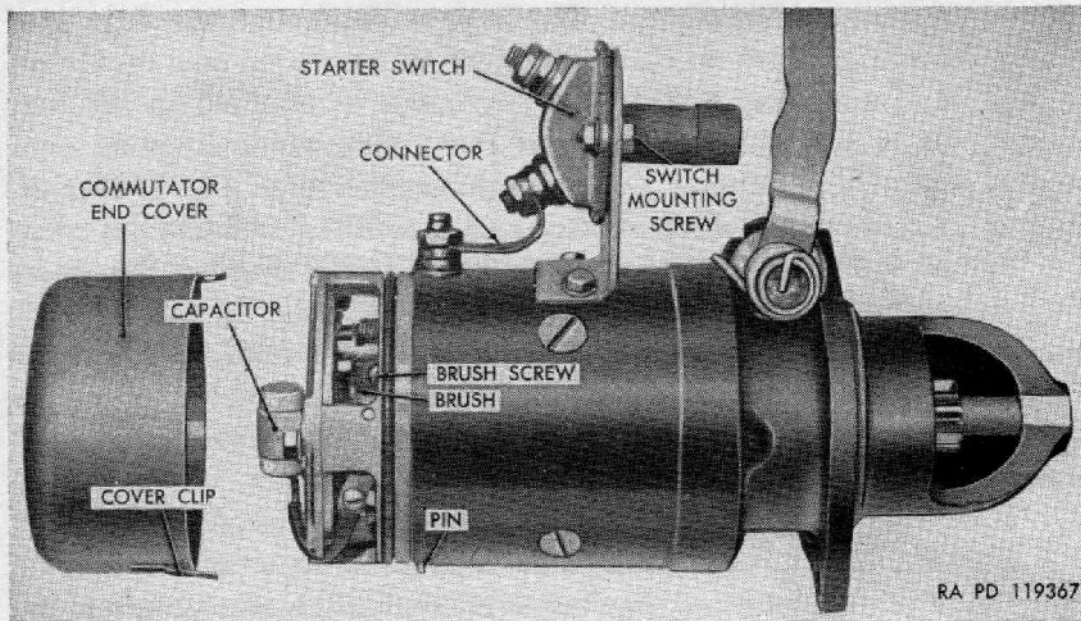

Figure 80. Starter with cover removed.
- (1) *General.* The starting and charging system consists of the starter, generator, and generator regulator. When the starter switch (fig. 80) mounted on the starter is closed, starter draws electric current directly from the batteries. The purpose of generator and generator regulator is to keep batteries fully charged and to furnish current for ignition and lighting system when speed of engine permits.
a. INSPECTION AND CLEANING (fig. 80). Remove commutator-end cover by releasing two cover clips from pins in starter housing and sliding cover off. Inspect commutator for dirty condition, roughness, high spots, and high mica. If commutator is dirty, clean with grade 2/0 flintpaper only and blow out dust with compressed air. If the commutator is rough, out-of-round, or has high mica, starter must be replaced.
b. REMOVAL. Disconnect battery-ground cable (7) at batteries (figs. 121 and 122). Disconnect starter cable at starter switch (fig. 80).
(1) *Remove Brushes.* Remove starter (b above). Remove commutator-end cover (fig. 80). Remove brush terminal screw and lock washer and pull brush out of brush holder. All four brushes are removed in same manner.
(2) *Install Brushes.* Pry brush spring up with screwdriver and install new brush in holder. Allow spring to snap down against brush and position itself. Fasten brush terminal to starter frame with screw and lock washer. All four brushes are installed in same manner. Make sure "O" ring gasket is in position and slide cover carefully into position so holes in cover clips engage pins in starter housing (fig. 80). Install starter (d below).
d. **INSTALLATION.** Place starter in position on mounting studs with a new gasket. Be sure switch is up. Secure with three safety nuts (fig. 79). Connect starter cable to starter-switch terminal (fig. 80). Connect battery-ground cable (7) at batteries (figs. 121 and 122).
e. **SWITCH REPLACEMENT** (fig. 80).
(1) *Removal.* Remove ground cable (7) from batteries (figs. 121 and 122). Disconnect starter cable at starter switch (fig. 80). Remove switch-to-terminal connector from starter switch. Remove two switch mounting screws, washers, and nuts.
connector and terminals with 1/2-inch-wide-cotton tape and paint with synthetic paint (glyptal). Connect starter cable to switch terminal (fig. 80). Connect battery ground cable (7) at batteries (figs. 121 and 122).